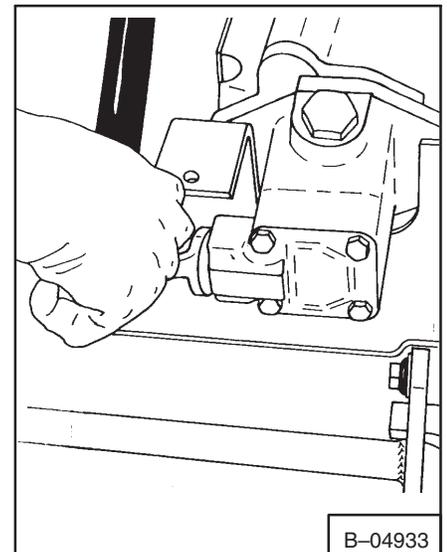

**Fig. 2-25** Removing Bolts
- Loosen the nuts from the pump mounting bolts (Fig. 2-25 & 2-26).